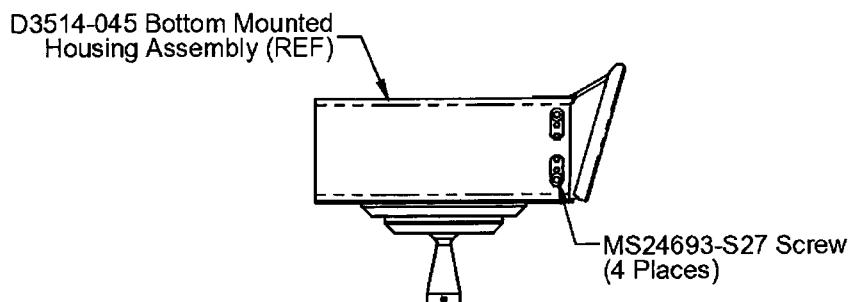

Figure 3.2.7 – Screws for Mounting GPS Unit
3.2.10 Install the GPS unit (not included in this kit). Install the GPS Mounting Box into the D3514-045 Bottom Mounted Housing Assembly using the qty(4) MS24693-S27 screws and the nutplates mounted on the D3514-045 Housing Assembly as shown in *Figure 3.2.7*.